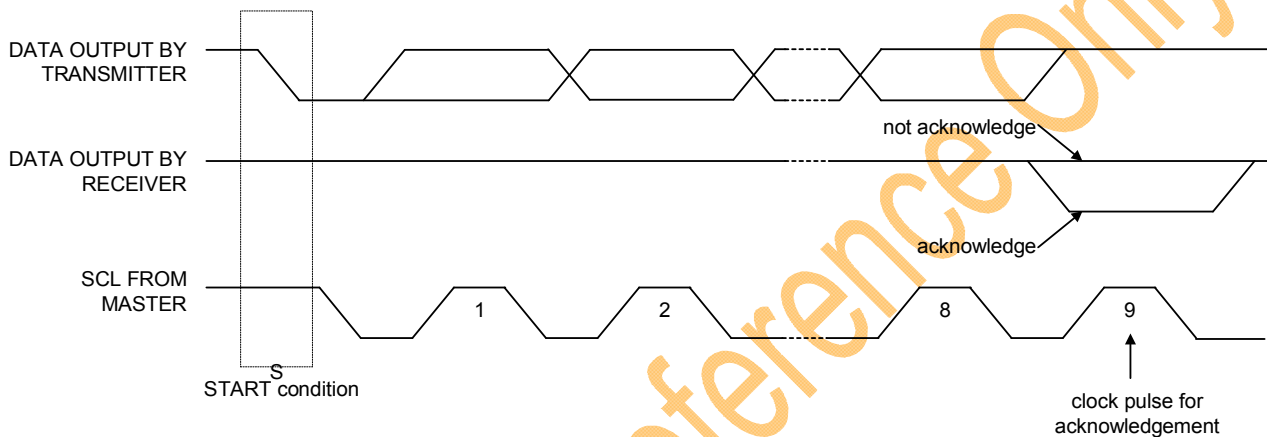

Figure.16 Acknowledge
The CH1115 supports both read and write access. The R/\bar{W} bit is part of the slave address. Before any data is transmitted on the I²C-bus, the device that should respond is addressed first. Two 7-bit slave addresses (0111100 and 0111101) are reserved for the CH1115. The least significant bit of the slave address is set by connecting the input SA0 to either logic 0(VSS) or 1 (VDD1). The I²C-bus protocol is illustrated in Fig.16. The sequence is initiated with a START condition (S) from the I²C-bus master that is followed by the slave address. All slaves with the corresponding address acknowledge in parallel, all the others will ignore the I²C-bus transfer. After acknowledgement, one or more command words follow which define the status of the addressed slaves. A command word consists of a control byte, which defines C_0 and D/\bar{C} (note1), plus a data byte (see Fig.16). The last control byte is tagged with a cleared most significant bit, the continuation bit C_0 . After a control byte with a cleared C_0 -bit, only data bytes will follow. The state of the D/\bar{C} -bit defines whether the data-byte is interpreted as a command or as RAM-data. The control and data bytes are also acknowledged by all addressed slaves on the bus. After the last control byte, depending on the D/\bar{C} bit setting, either a series of display data bytes or command data bytes may follow. If the D/\bar{C} bit was set to '1', these display bytes are stored in the display RAM at the address specified by the data pointer. The data pointer is automatically updated and the data is directed to the intended CH1115 device. If the D/\bar{C} bit of the last control byte was set to '0', these command bytes will be decoded and the setting of the device will be changed according to the received commands. The acknowledgement after each byte is made only by the addressed slave. At the end of the transmission the I²C-bus master issues a stop condition (P). If the R/\bar{W} bit is set to one in the slave-address, the chip will output data immediately after the slave-address according to the D/\bar{C} bit, which was sent during the last write access. If no acknowledge is generated by the master after a byte, the driver stops transferring data to the master.